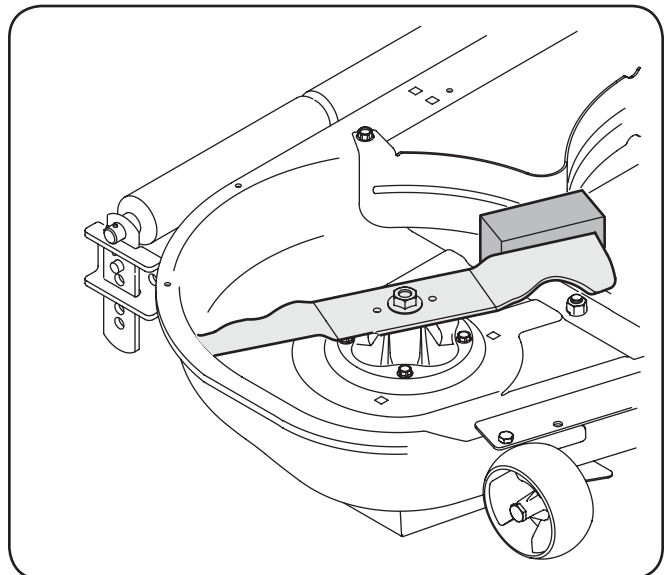

Figure 7-6
- Place a block of wood between the center deck housing baffle and the cutting blade to act as a stabilizer. See Fig. 7-6.
- Remove the hex flange nut that secures the blade to the spindle assembly. See Fig. 7-6.